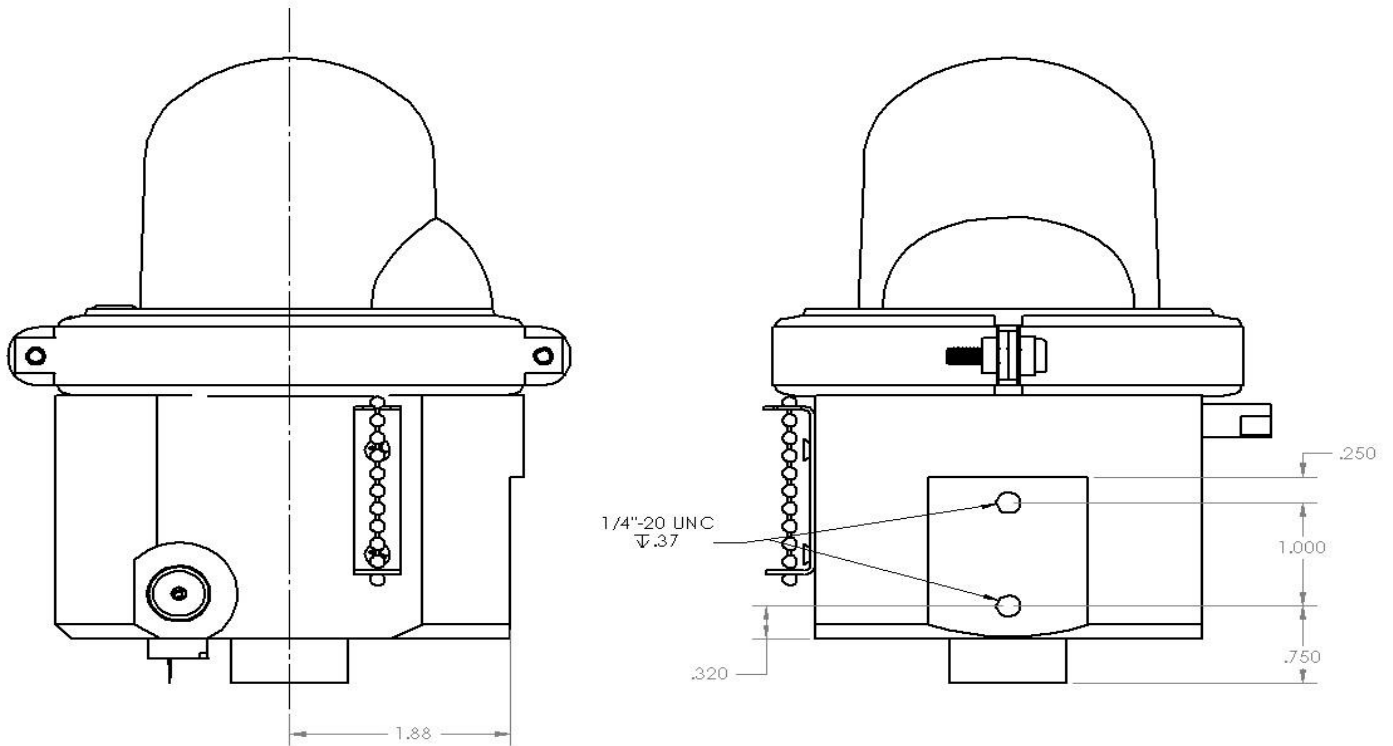

Figure 1 – Mounting Dimensions
- Use the two (2) 1/4"-20 UNC mounting holes located on the valve body for mounting. (see figure 1)